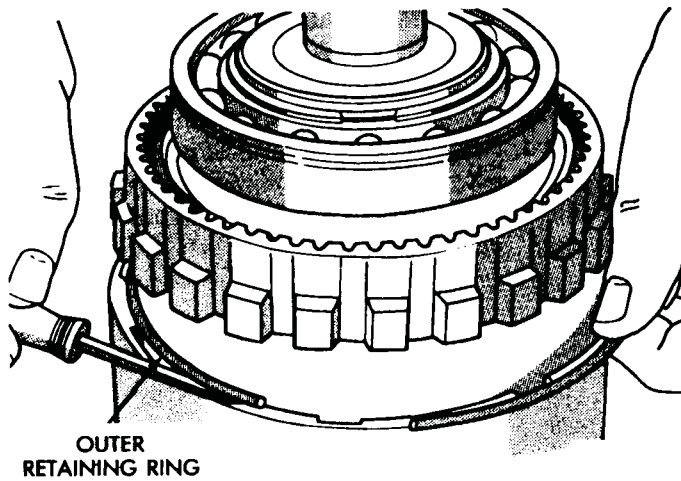

Fig. 46 Clutch Drum And Outer Retaining Ring Installation
- (6) Align and install clutch drum on annulus gear (Fig. 46). Be sure drum is engaged in annulus gear lugs.
- (7) Install clutch drum outer retaining ring (Fig. 46).